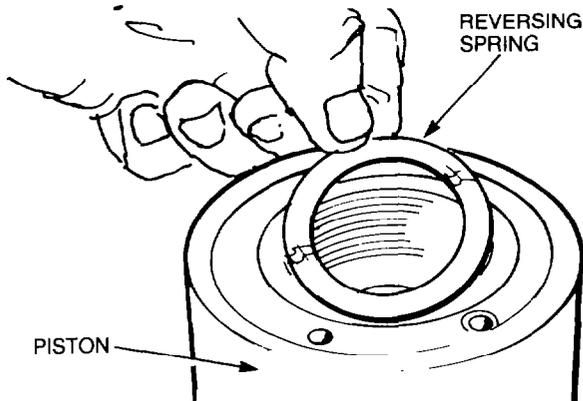

Figure 274 — Reversing Spring — Removal
- p. Remove the lower reversing springs from the nose of the actuating valve (see Fig. 274).